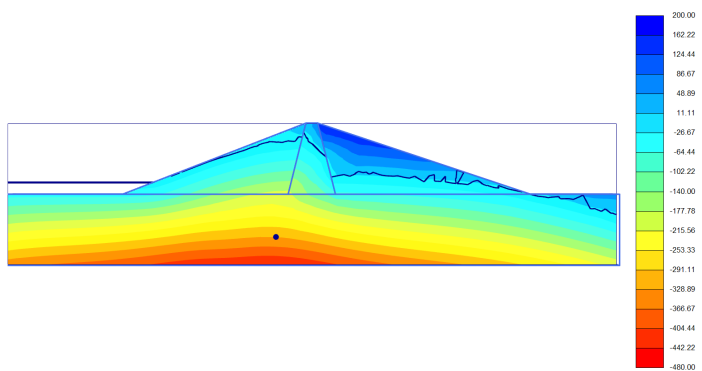

Figure 7.10 Pore water pressure distribution after rapid drawdown (Phase_1)
- The situation after rapid drawdown of the reservoir level (Figure 7.10).